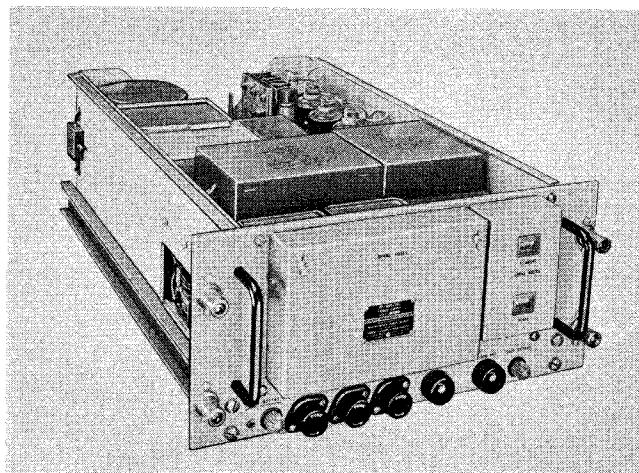

Figure 1-9. Power Supply PP-1095/SRT,
(5) POWER SUPPLY PP-1095/SRT (MEDIUM VOLTAGE POWER SUPPLY, MVPS). (See figure 1-9.)—This unit is commonly called the medium voltage power supply (MVPS) to distinguish it from other power supplies. It contains the necessary power transformers, rectifier tubes, filter components, and miscellaneous parts to provide outputs of +500 and +1,050/1,300 volts for the IPA and PA tubes of the radio frequency amplifier and portions of the low level radio modulator. This unit is energized by the controls on the low voltage power supply front panel. The +500-volt supply is used when the equipment is operating at the 100-watt and the 500-watt levels, but the +1,050/1,300-volt supply is used only at the 100-watt level. The +1,050 volts is used with phone service only, whereas the +1,300 volts is used with all other modes of transmission. The elapsed-time meters on the front panel are provided for logging transmitter group tube hours (filament and plate).